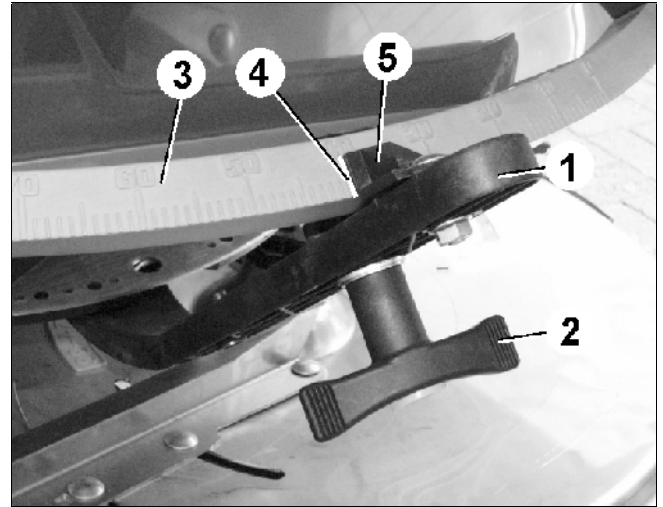

Fig. 100
- Use the setting lever (Fig. 100/1) to set the spread rate according to the setting chart.
- Slacken thumb nut (Fig. 100/2).
- Find the required shutter slide position on the scale (Fig. 100/3) .
- Align the reading edge (Fig. 100/4) of the setting lever (Fig. 100/5) and the scale figure.
- Firmly retighten thumb nut (Fig. 100/2).